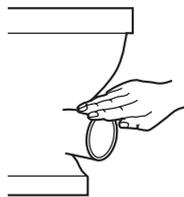

Fig.34a Lubricating pan spigot
Step 2 – Lubricate WC spigot with 9136 Lubricant (Fig.34a)